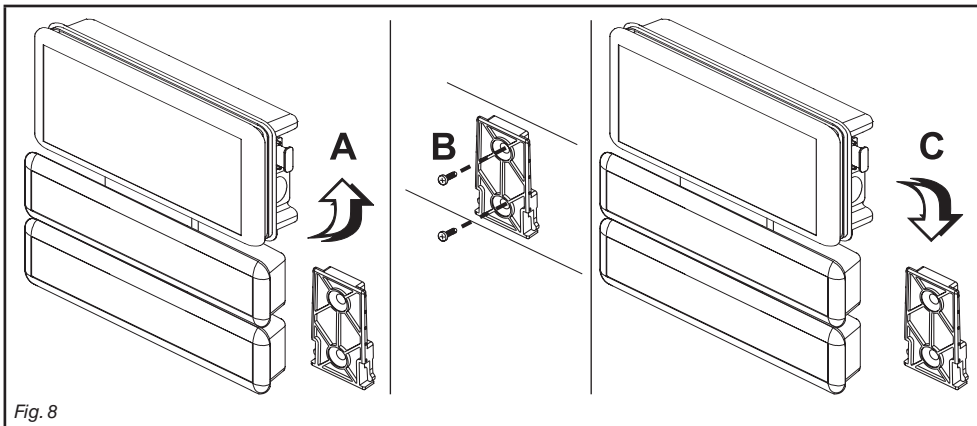

Fig. 8
The monitor must be mounted after having fixed the bracket at the desired location (the previous paragraph shows the bracket drilling template). The bracket must be extracted from the monitor seat (A, Fig. 8) and fixed using the provided screws (B). Make sure the bracket is securely mounted, fit the monitor on it, and push it in until it locks in place (C).